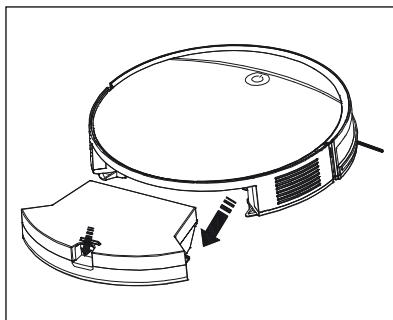

Fig. 7
① ATTENTION!
- Do not rinse the EPA filter ⑦ with water. The EPA filter ⑦ can be damaged as a result.
- 1) Press the release button ⑬ on the dust container ⑯, and pull it out of the appliance (see Fig. 7).